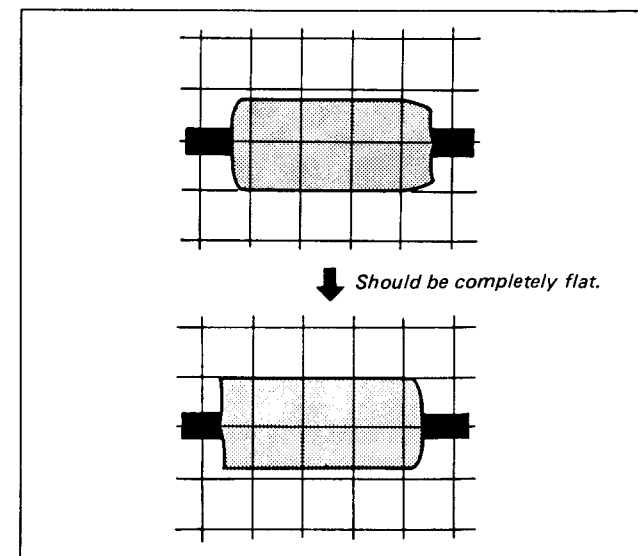

Fig. 1-77
4) Rotate No. 3 guide clockwise to make the inlet side waveform completely flat, then rotate clockwise slightly (approximately 15°). (See Fig. 1-77.)